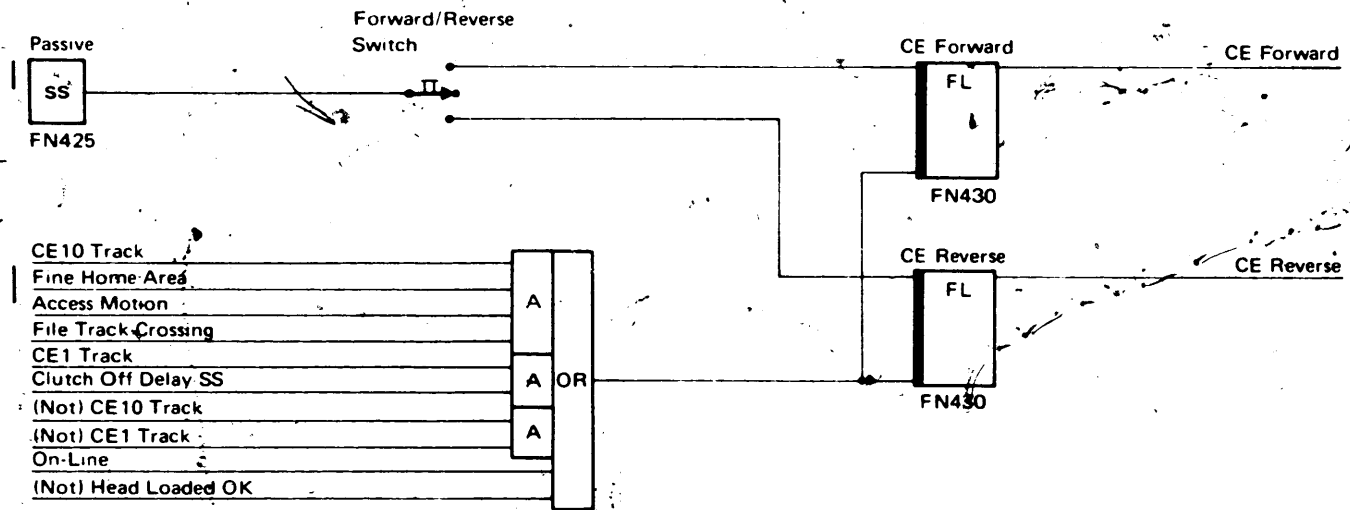

Figure 1-49. CE Control Logic [07510A]
- Figure 1-49 Fr. E03 shows the CE control logic.